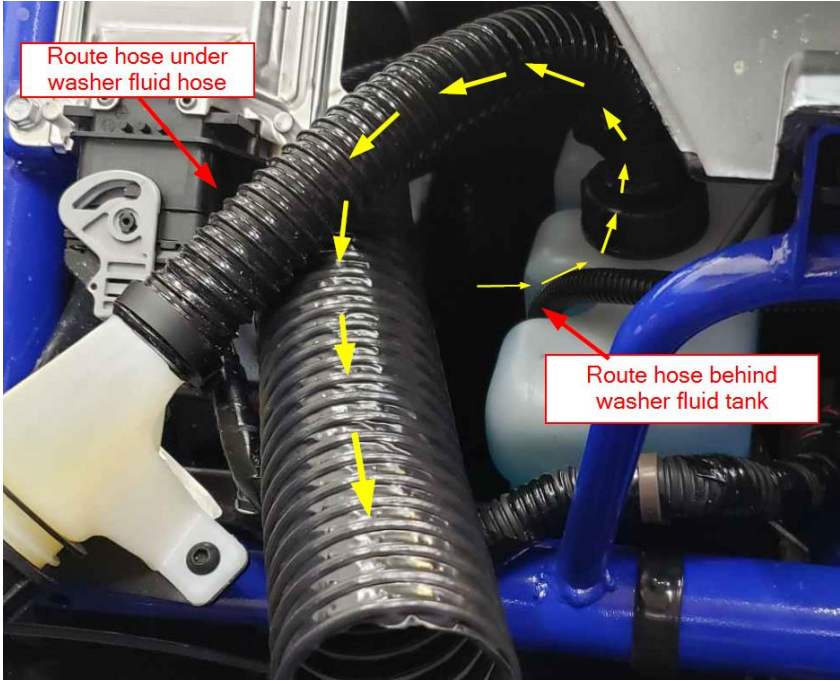
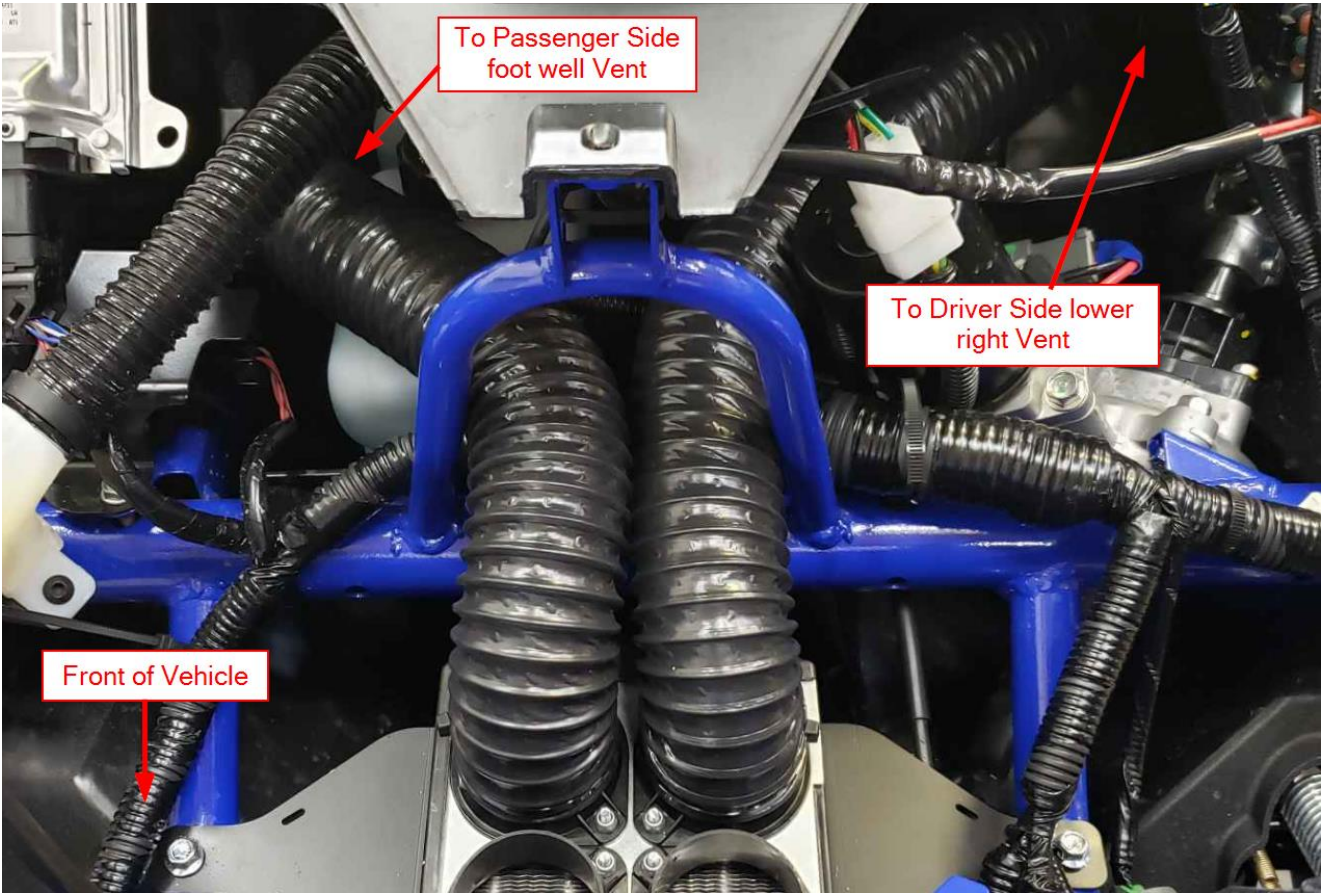

Figure 17
Figure 18
- p. Pull the hose through from the front of the vehicle and route it behind the washer fluid tank toward the front of the vehicle staying to the passenger side of the vehicle as shown in Figure 17. Attach the hose to the heater as shown in Figure 18.
- q. Attach the single 6" lengths of compressed 2" Duct Hose to one of the 2" Vents, secure using a zip tie. Insert the hose end through the hole created to the Driver's Right Hand side. Insert the 2" Vent. Route the hose to the heater and attach as shown in Figure 18